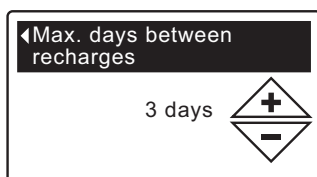

FIG. 38
5. Press the SELECT (O) button to display the Max. days between recharges screen (See Figure 38).